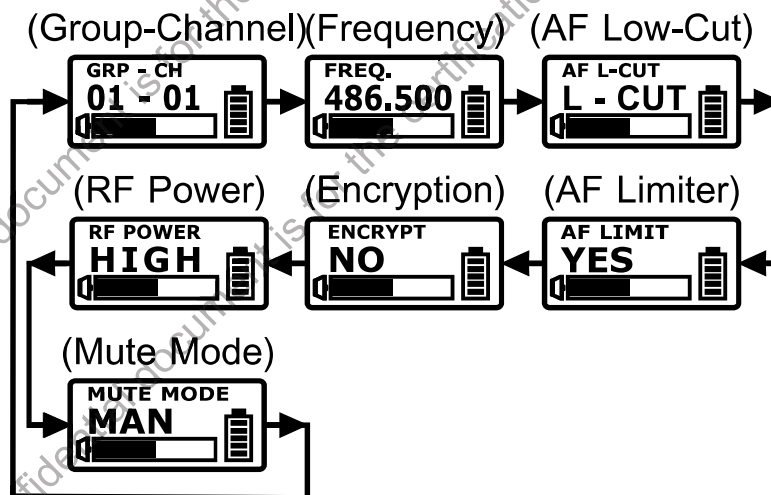

Fig. 8
- ① Functions
- ② Parameters
- ③ Battery Status
- ④ Audio Signal Level Bar
2. ACT-800H LCD. Fig. 8: